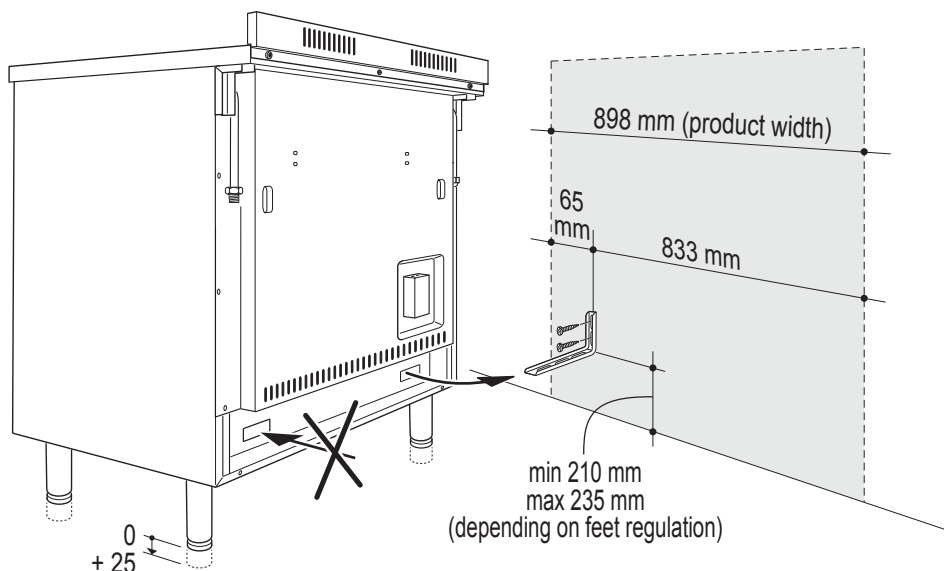

Fig. 1.8
Please follow the indications given in fig. 1.8.
4. Move the cooker to the wall and adjust the height of the anti-tilt bracket so that it can engage in the slot on the cooker's back, as shown in fig. 1.8.